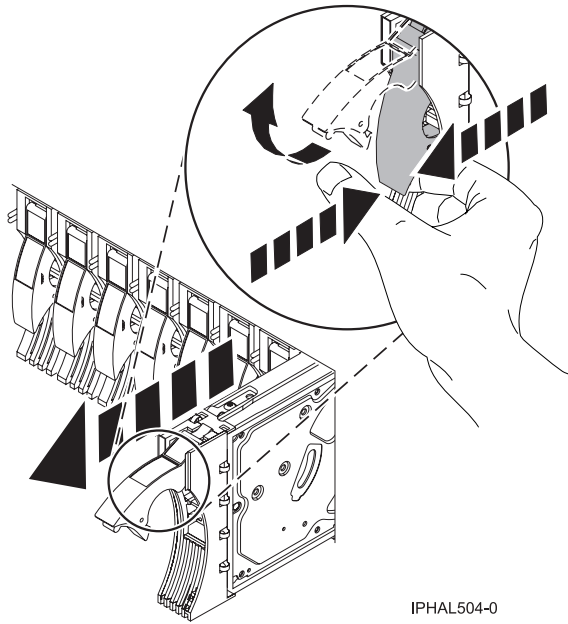

Figure 19. Removing a disk drive from a model
13. Unlock the drive handle by squeezing it and pulling it out toward you as shown in Figure 19 on page 27.